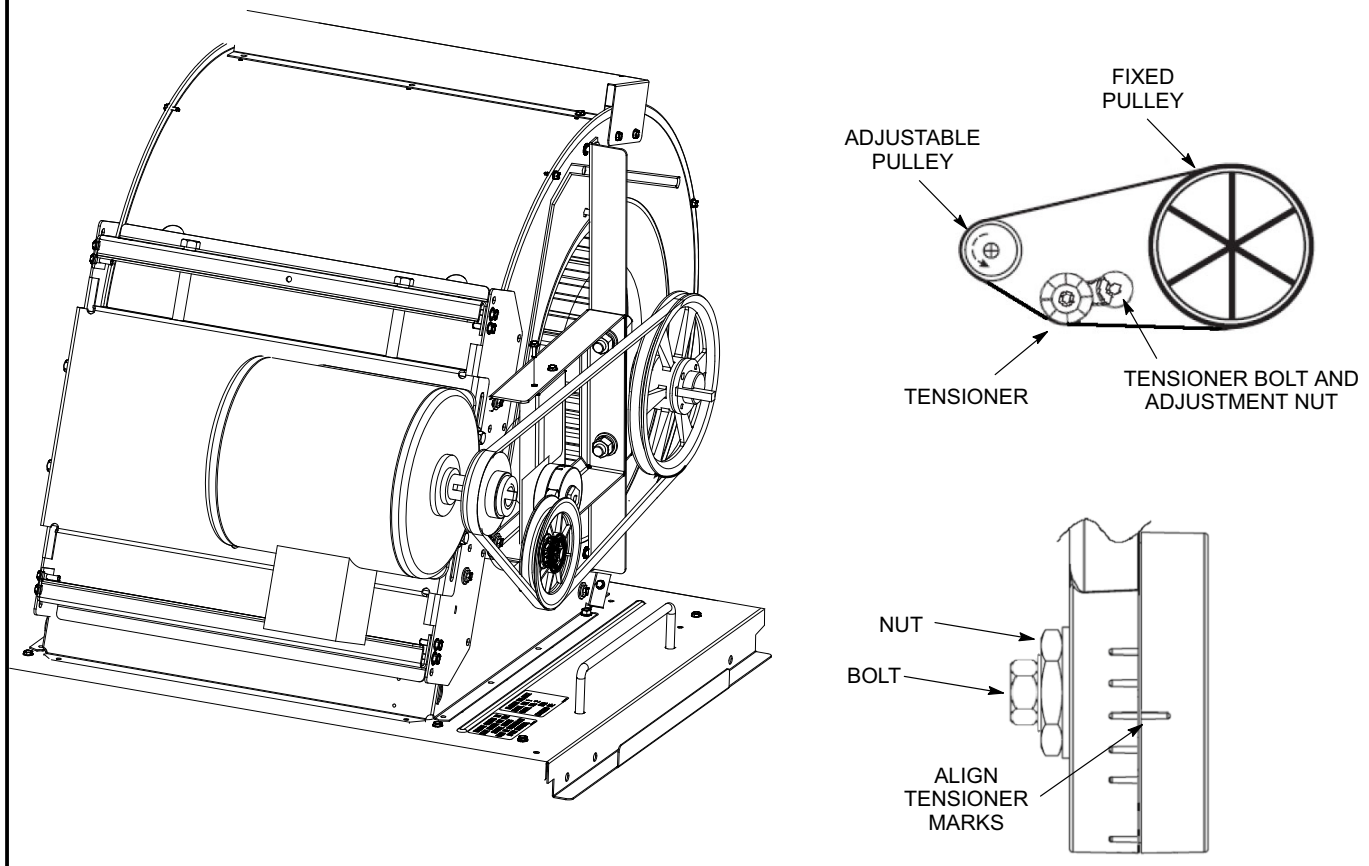

FIGURE 14
1. Loosen the bolt in the center of the tensioner. See figure 14.
3. Using a 15/16" wrench, turn the tensioner nut until marks align as shown in figure 14.